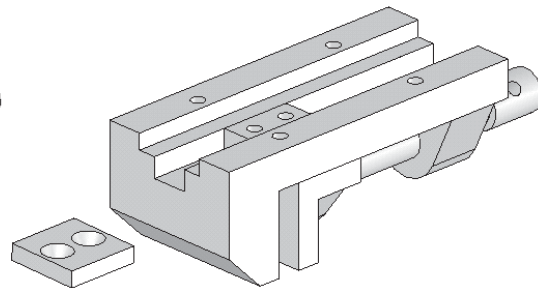

Figure 11-68 Clamping Plate after rotating
3. Select the Clamping Plate using the right mouse button and drag the cursor to rotate the Clamping Plate, as shown in Figure 11-68.